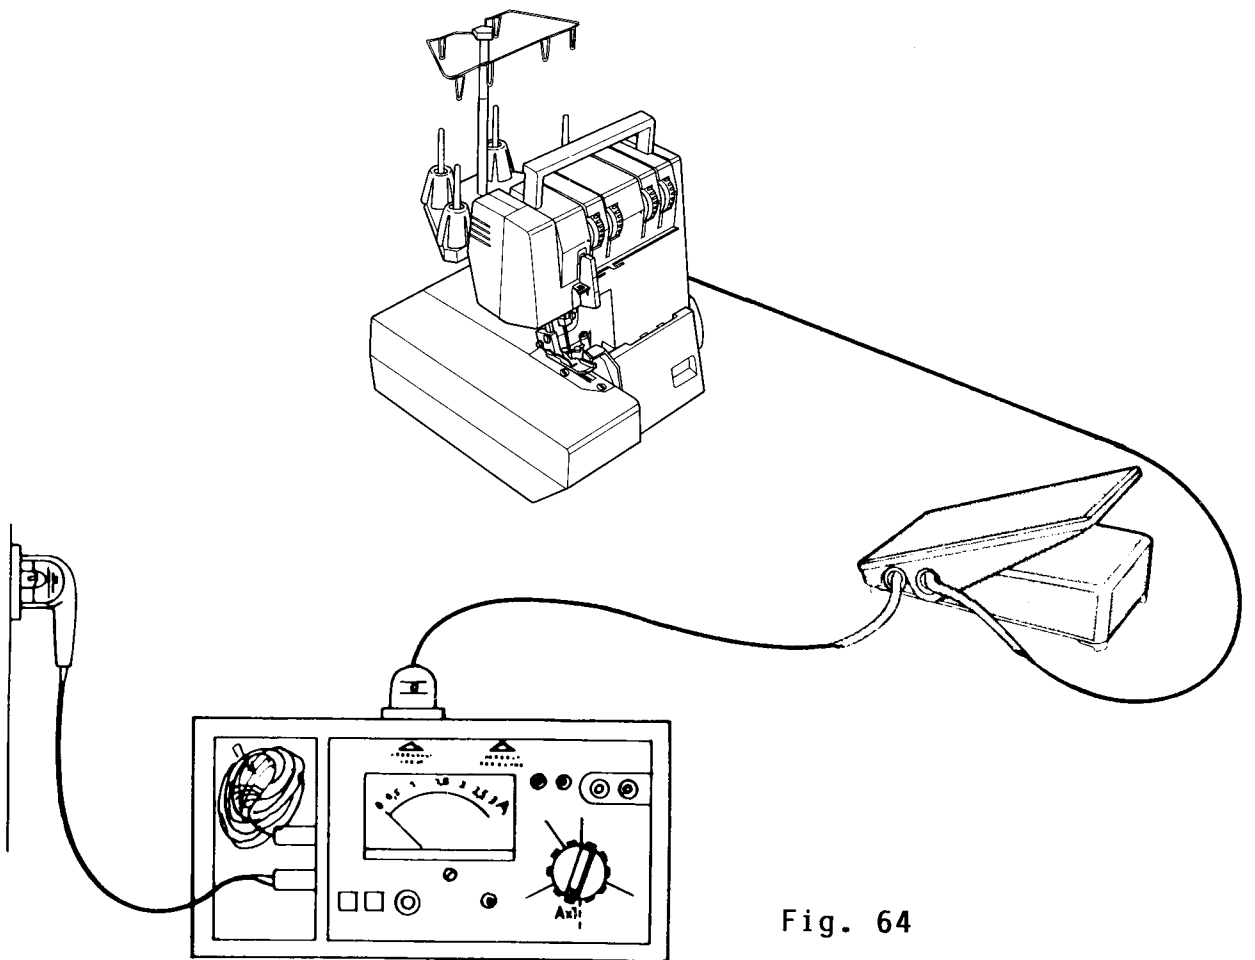

Fig. 64
- * Leave sewing machine plug in left socket (**Fig.64**).